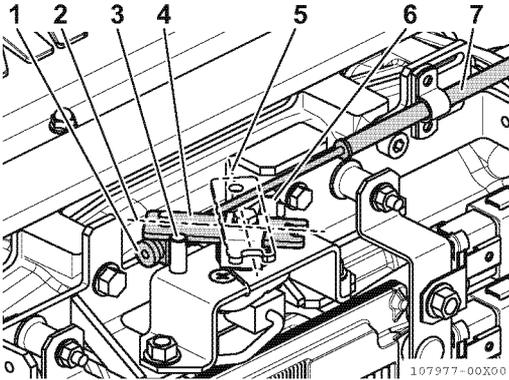

Figure 4
1. To adjust, loosen the adjustment screw (Figure 4, (1)) for the remote control cable and adjust.
2. Adjust the low-speed stop position (Figure 4, (2)) first and then adjust the high-speed stop position (Figure 4, (5)), with the adjustment screw on the remote control lever (Figure 4, (4)).